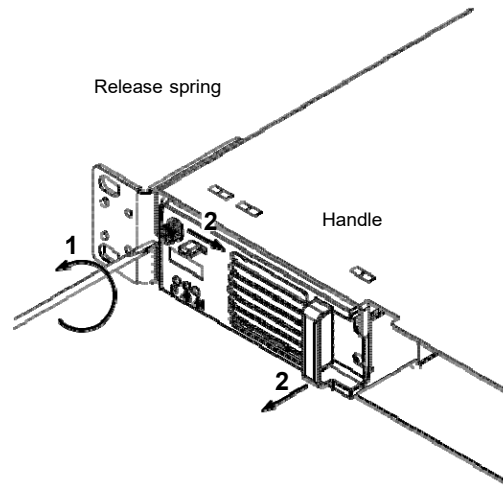

Figure 7-3 Replacing an XR04.48 or XR08.48 Rectifier
2. Push the release spring to the right and at the same time pull the handle to remove the rectifier from the slot, Figure 7-3 (2).